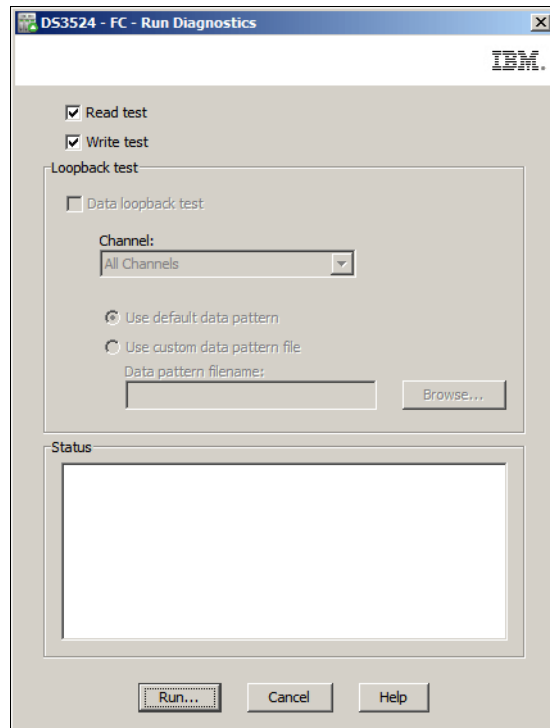

Figure 14-121 Run Diagnostics
2. The **Run Diagnostics** window shown in Figure 14-121 on page 407 will open. In this window you can select the tests that you want to run on the selected controller. Select the check boxes for the diagnostic tests to be run. There are two tests applicable to the DS3500: